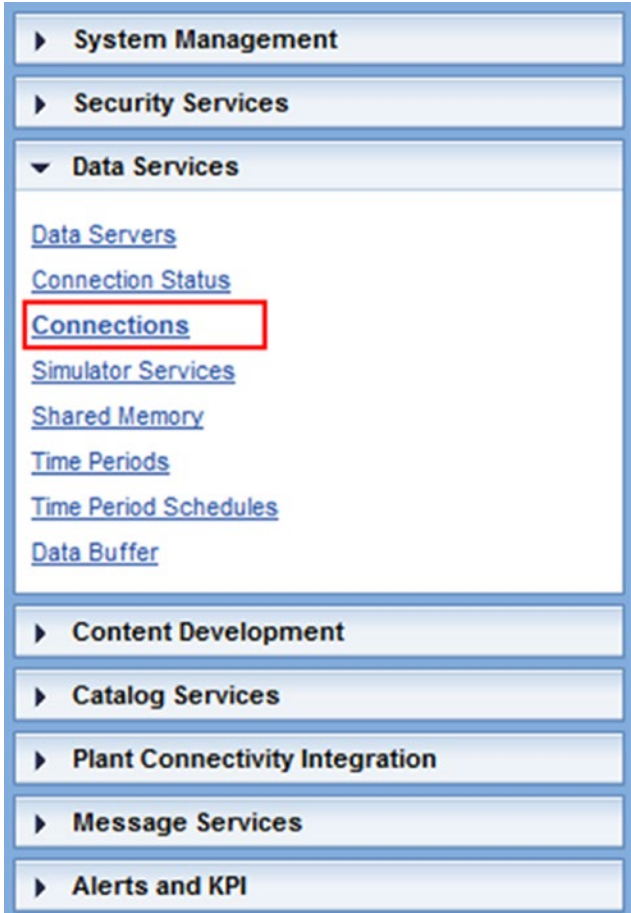

Figure 6-90. Data Services Connections selection
1. In the SAP MII portal, navigate to Data Services ► Connections, as shown in Figure 6-90.